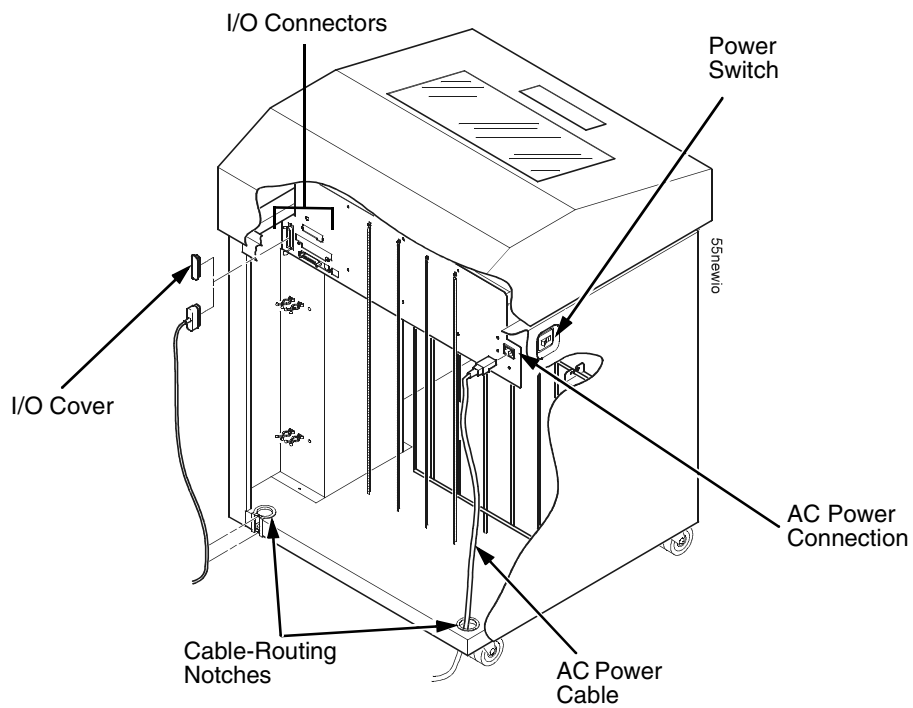

Figure 21. Interface and Power Locations
9. Guide the power cord up through the hole in the lower right back corner of the cabinet (see Figure 21). Thread the power cord inside the bracket where the gas spring is attached.
3. Guide the AC power cable up through the hole in the lower right back corner of the cabinet (see Figure 21.)